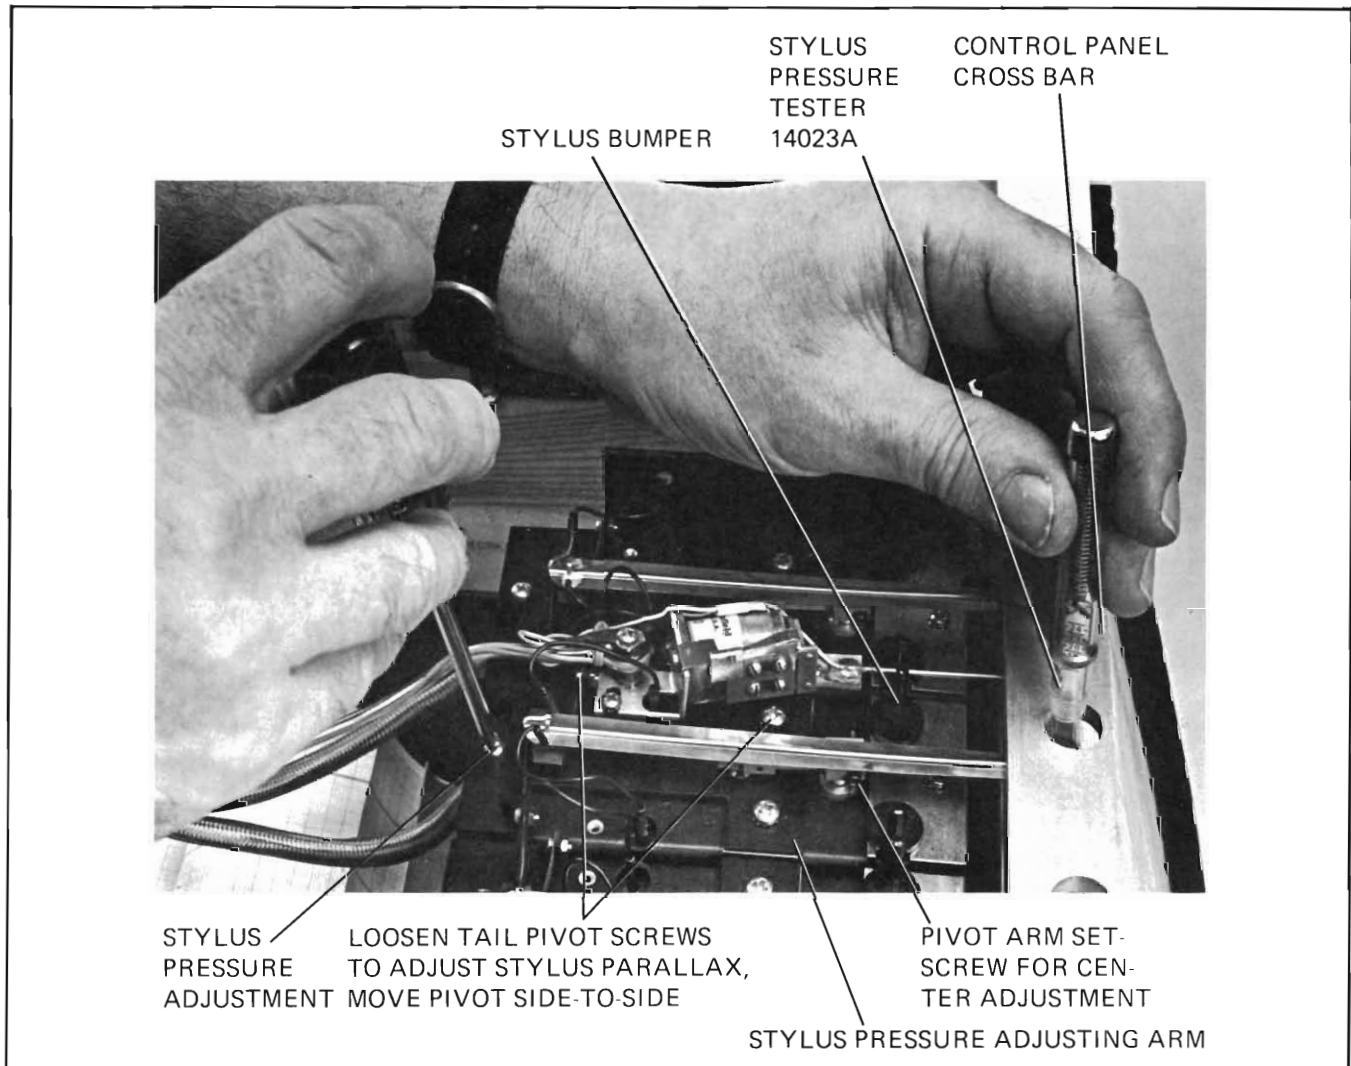

Figure 5-8. Stylus Adjustments
5-31. **STYLUS PRESSURE ADJUSTMENT.** Stylus pressure must be checked at the *tip* of the stylus only, for accurate readings. For access to the stylus tips, four holes are provided in the front top bar. See Figure 5-8 and proceed as follows:
tester should read 20 grams, ± 2 grams. Read tester with respect to top of fluted ring (Figure 5-8).
d. If pressure adjustment is required, turn adjusting screw (Figure 5-8).
a. Loosen two screws indicated in Figure 5-8 and move stylus tail pivot into proper position. Tighten both screws snug but not tight.
- Remove the control switch cover bracket and the control panel cross bar (Figure 5-8). Unplug galvanometer, interlock and marker cables.